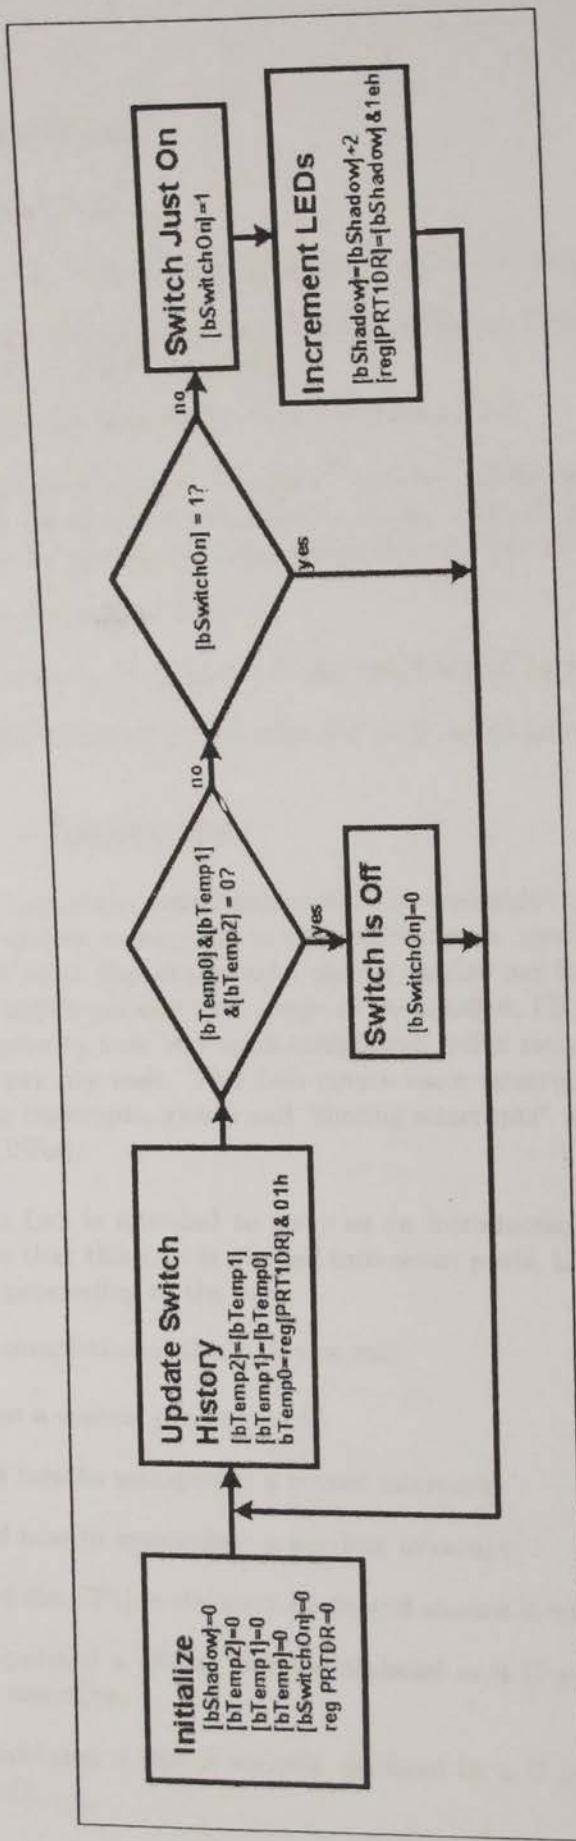

Figure 1.12: Switch debounce algorithm.
2. Implements the flow chart shown in Figure 1.12.